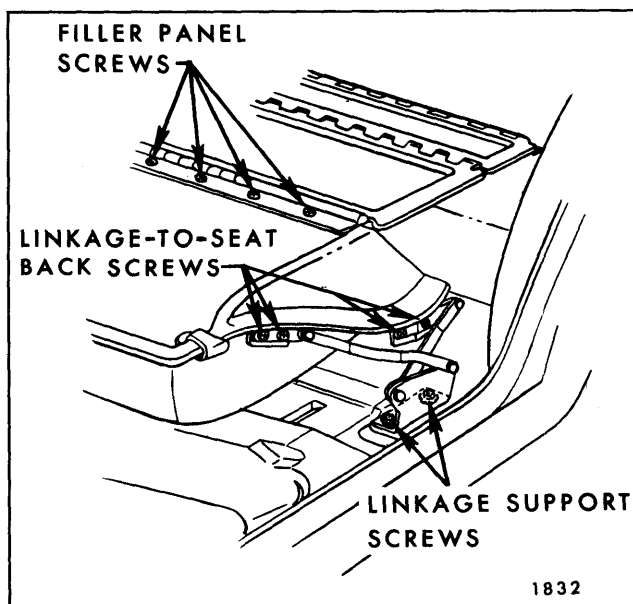
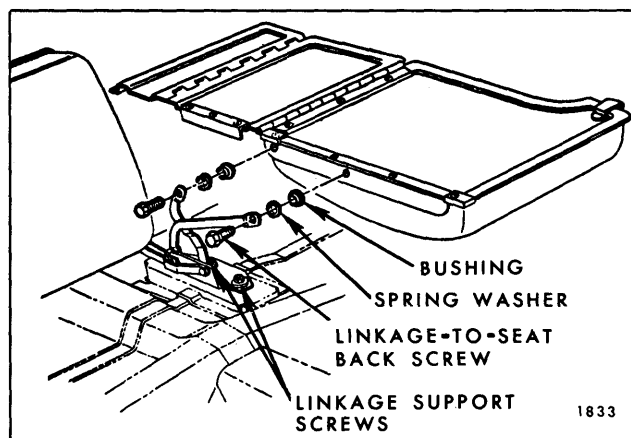

Fig. 15-68—Folding Second Seat Back Linkage and Filler Panel
Fig. 15-69—Split Second Seat Center Linkage
2. On both sides of seat back, remove screws securing seat back to folding linkage (Fig. 15-68) and remove seat back and panel assembly from body. See Figure 15-69 for center linkage attachments on split second seat.